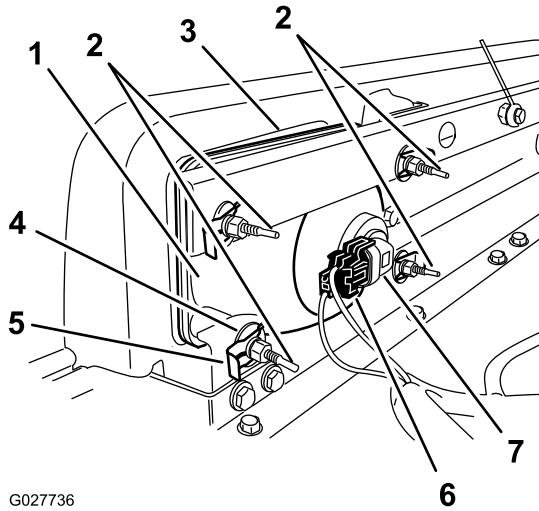

Figure 41
3. Disconnect the electrical connector for the harness from the connector of the lamp assembly (Figure 41).
4. Remove the speed clips and washers that secure the headlight to the headlight bracket (Figure 41).
5. Remove the headlight assembly by moving it forward through the opening in the front bumper (Figure 41).
6. Install the new headlight through the opening in the bumper (Figure 41).
- Connect the electrical connector for the harness to the connector of the lamp assembly (Figure 41).
- At the back of the headlight assembly, rotate adjustment screws (Figure 41) to pivot the headlight assembly and align the position of the cast beam.